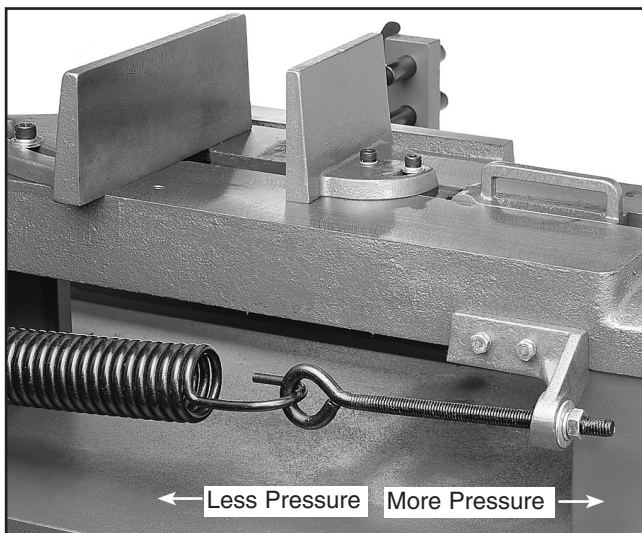

Figure 3. Adjusting spring tension.
4. If it is hard to stop the travel, then the spring tension is too weak. Turn the adjusting nut on the spring's eye bolt (**See Figure 3**) counterclockwise so there is less of the eye bolt threads extending beyond the bracket.